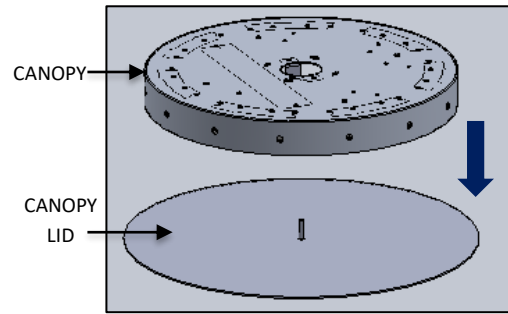

FIG. 7 – CANOPY ACCESS PLATE DIS-ASSEMBLY
1. Turn off power to circuit fixture. Spin the CANOPY LID counter clockwise to unscrew as shown in FIG. 7.